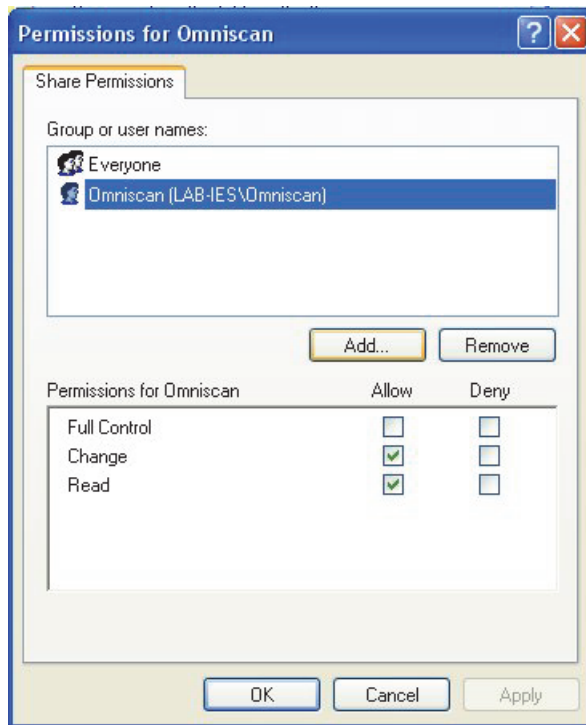

Figure 14-12 The Permissions for Omniscan dialog box (Windows XP)
11. In the **Permissions for Omniscan** dialog box, in the **Allow** column, select the **Change** and **Read** check boxes (see Figure 14-12 on page 294), and then click **OK**.